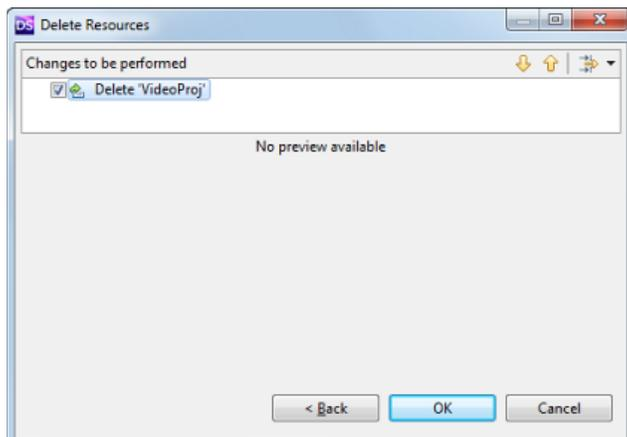

FIG. 30 Delete Resources Preview dialog
2. Click **OK** to delete the selected project immediately, or click **Preview** to preview and verify the changes before they are made (FIG. 30):